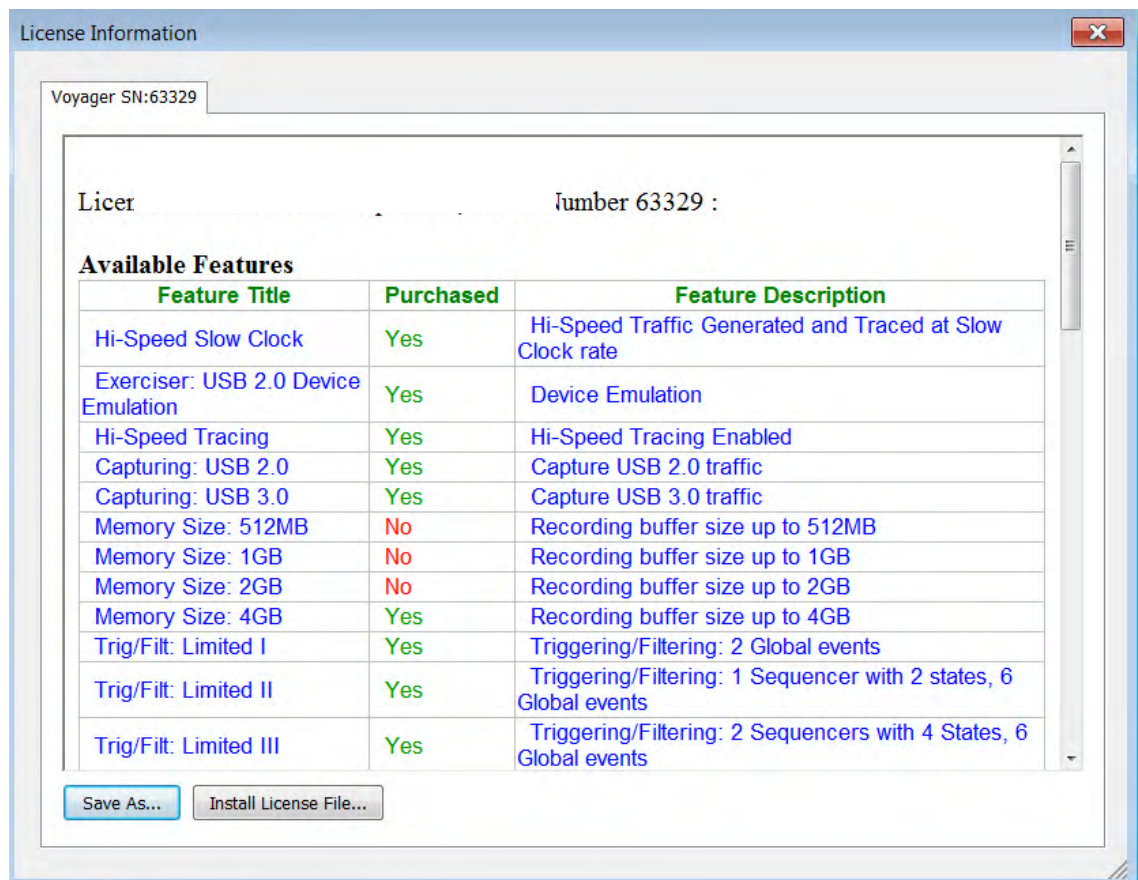

Figure 13.7: License Information Dialog
1. From the Help menu, select **Display License Information** to display the License Information Dialog (see Figure 13.7 on page 522).